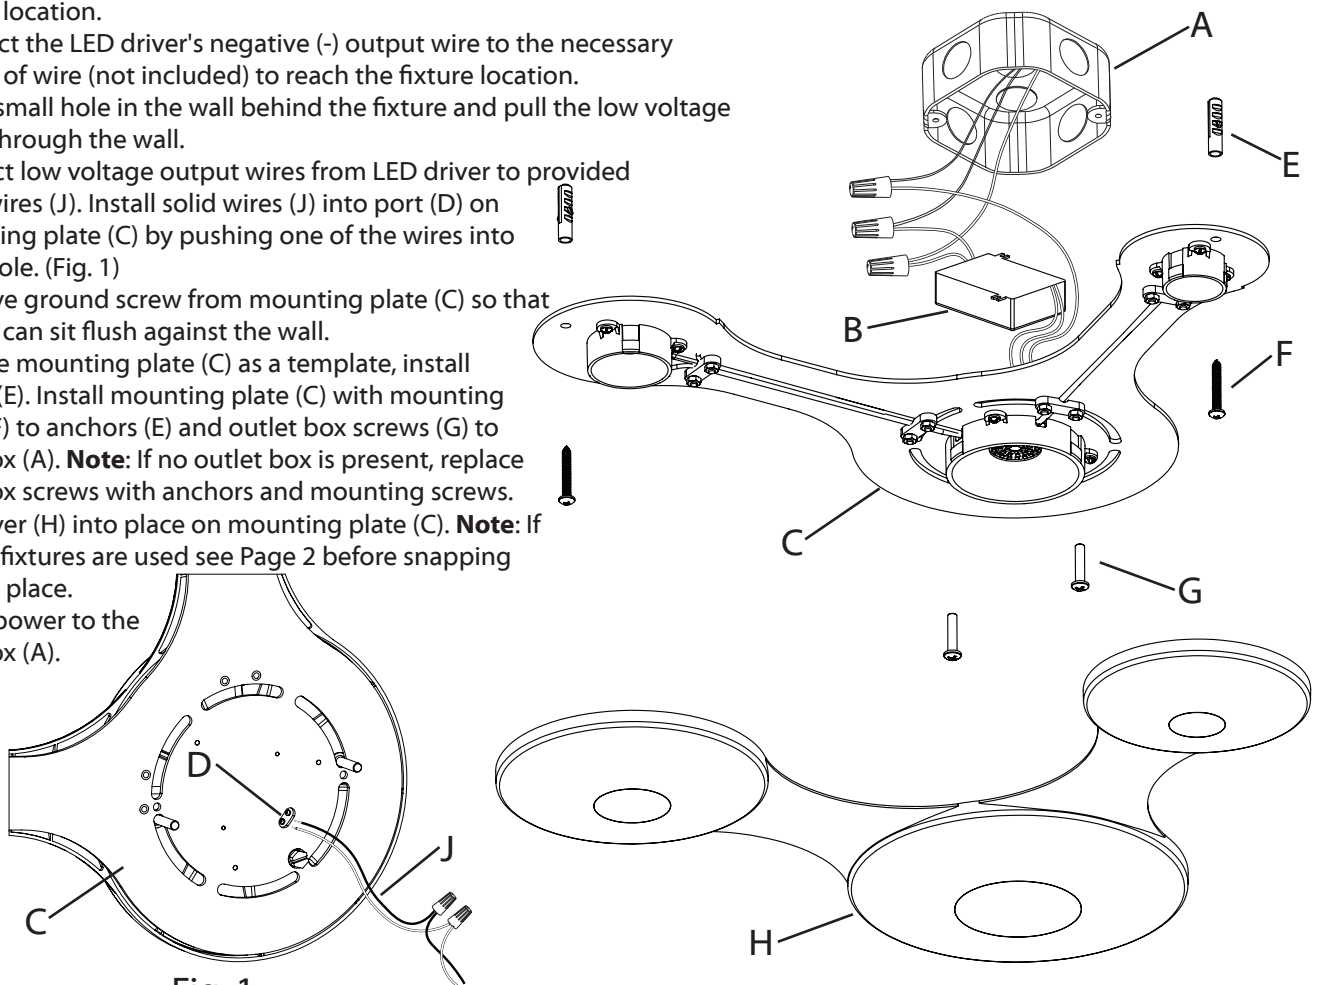

Fig. 1
- a. Connect the LED driver's (B) live wire (black) to the live outlet box wire.
- b. Connect the LED driver's (B) neutral wire (white) to the neutral outlet box wire.
- c. Connect the fixture's ground wire (green or uncoated) to the ground outlet box wire. If no ground is present in outlet box, connect fixture's ground wire to the mounting plate (C) using the green screw (included).
- d. Connect low voltage output wires from LED driver to provided solid wires (J). Install solid wires (J) into port (D) on mounting plate (C) by pushing one of the wires into each hole. (Fig. 1)
- e. Carefully place connections and LED driver in outlet box (A).
- a. Connect the LED driver's (B) live wire (black) to the live supply wire.
- f. Connect low voltage output wires from LED driver to provided solid wires (J). Install solid wires (J) into port (D) on mounting plate (C) by pushing one of the wires into each hole. (Fig. 1)
- g. Remove ground screw from mounting plate (C) so that fixture can sit flush against the wall.
4. Using the mounting plate (C) as a template, install anchors (E). Install mounting plate (C) with mounting screws (F) to anchors (E) and outlet box screws (G) to outlet box (A). **Note:** If no outlet box is present, replace outlet box screws with anchors and mounting screws.
5. Snap cover (H) into place on mounting plate (C). **Note:** If multiple fixtures are used see Page 2 before snapping covers in place.
6. Restore power to the outlet box (A).